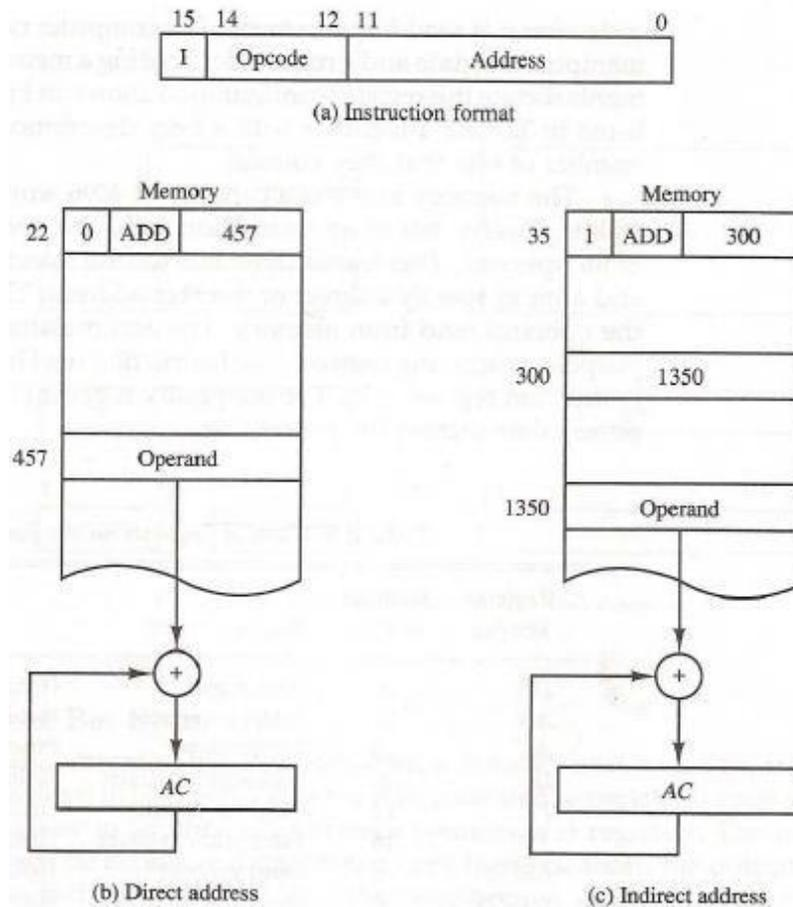

Figure 5-2 Demonstration of direct and indirect address.
- The instruction code format shown in Fig. 5-2(a). It consists of a 3-bit operation code, a 12-bit address, and an indirect address mode bit designated by I. The mode bit is 0 for a direct address and 1 for an indirect address.
- A direct address instruction is shown in Fig. 5-2(b).
- The instruction in address 35 shown in Fig. 5-2(c) has a mode bit $I = 1$.
- Thus the effective address in the instruction of Fig. 5-2(b) is 457 and in the instruction of Fig 5-2(c) is 1350.